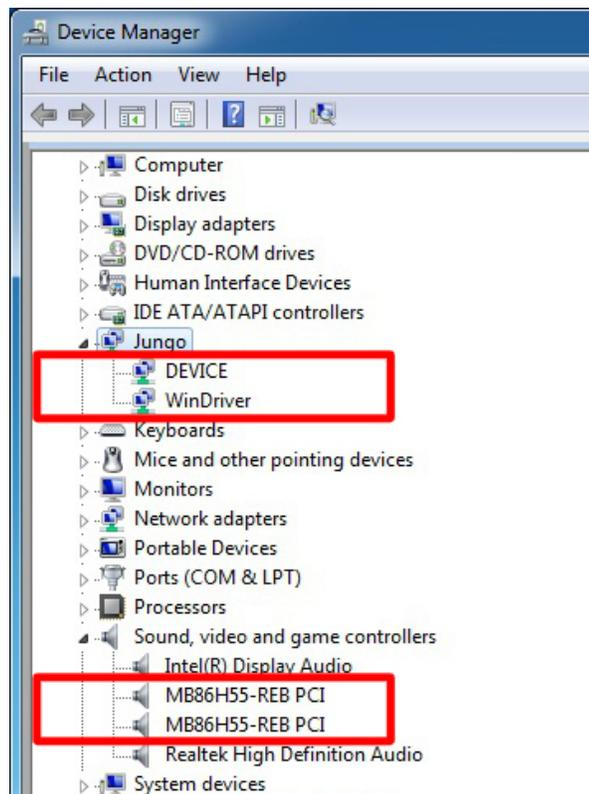

Figure 1-8: Device Manager – 64-bit OS
- Step 6:** Check the device manager in the Windows control panel to ensure the driver (MB86H55-REB PCI, DEVICE and WinDriver) has been properly installed. See **Figure 1-8** for the details.